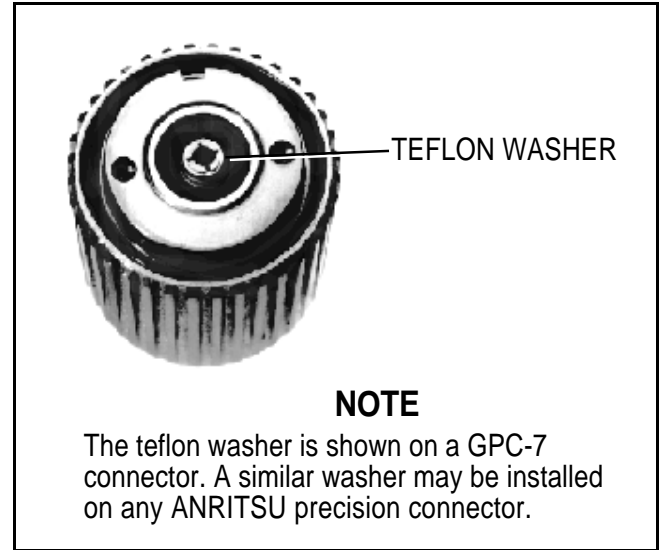

Figure 5. Tuning Washer on GPC-7 Connector
- e. Do Not Disturb Teflon Tuning Washers On Connector Center Pins.** The center conductor of many RF component connectors contains a small teflon tuning washer that is located near the point of mating (Figure 5). This washer compensates for minor impedance discontinuities at the interface. *Do not disturb this washer.* The location of this washer is critical to the performance of the RF component.